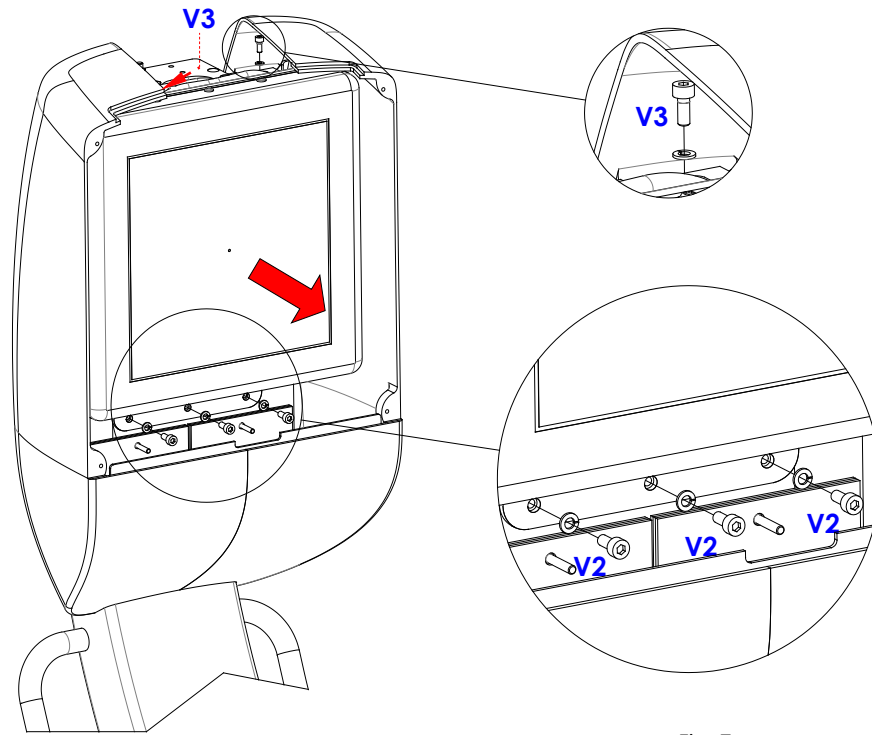
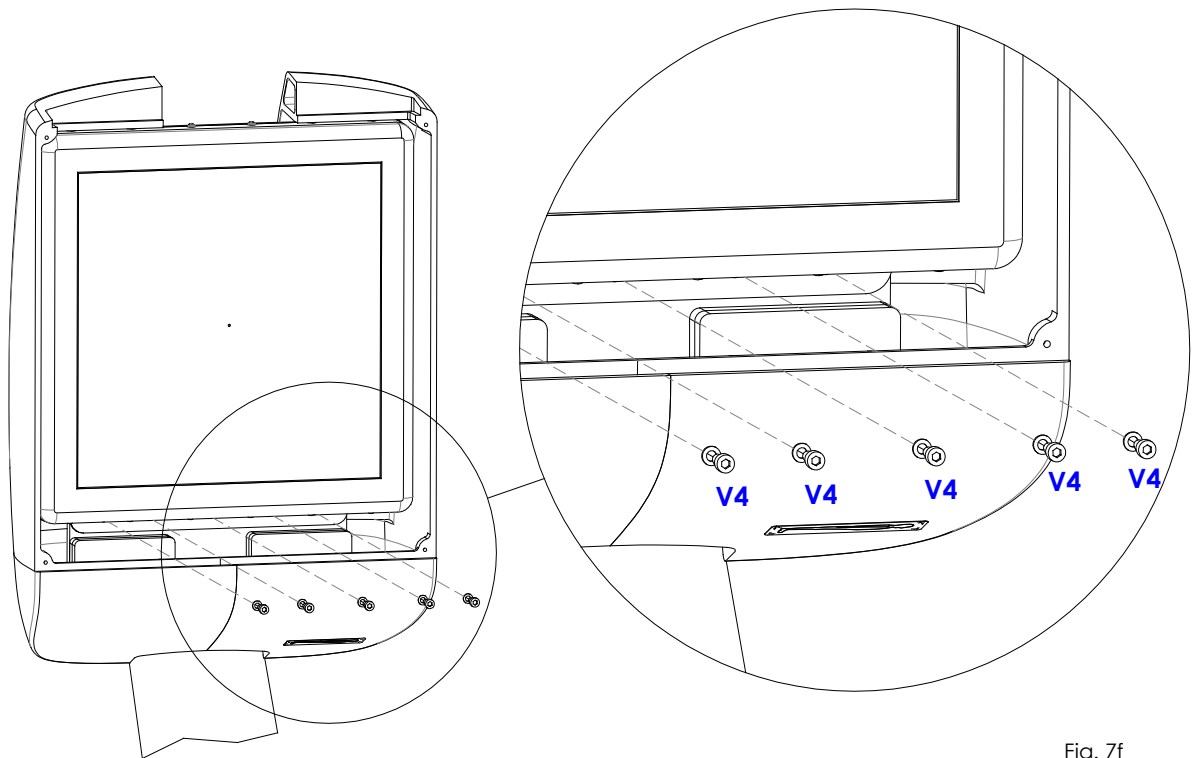
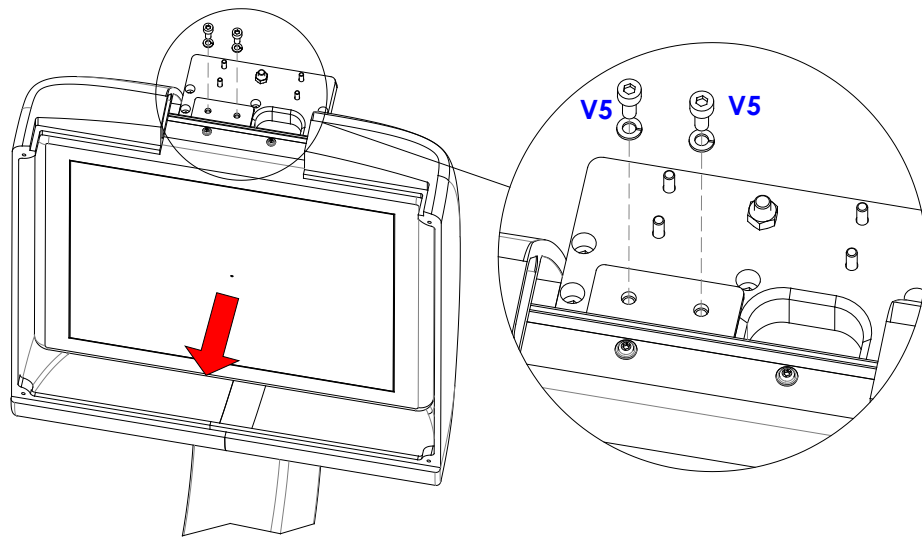

Fig. 7e
Fig. 7f
Fig. 7g
- For 21x21 FPD version: undo the 3 screws (V2) and the 2 screws (V3) (one on either side), together with their washers (Fig.7e).
- For 30x30 FPD version: undo the 5 screws (V4) (Fig.7f) and the 2 screws (V5) (fig. 7g), together with their washers.
- Remove the FPD and its plate of support as shown in Fig.7e/ Fig. 7g). During this procedure, **maintain the FPD** in order to prevent accidental falls.